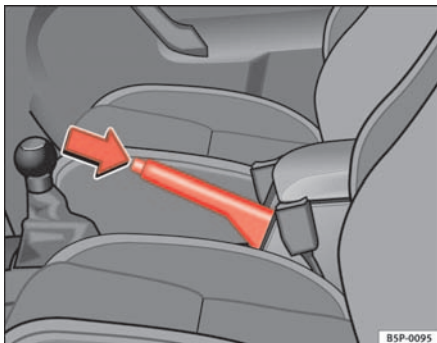

Fig. 104 Handbrake between the front seats
- Pull the handbrake lever up firmly ⇒ fig. 104.
- Pull the lever up slightly and press the release knob in the direction of the arrow ⇒ fig. 104 and guide the handbrake lever down fully ⇒ ⚠.